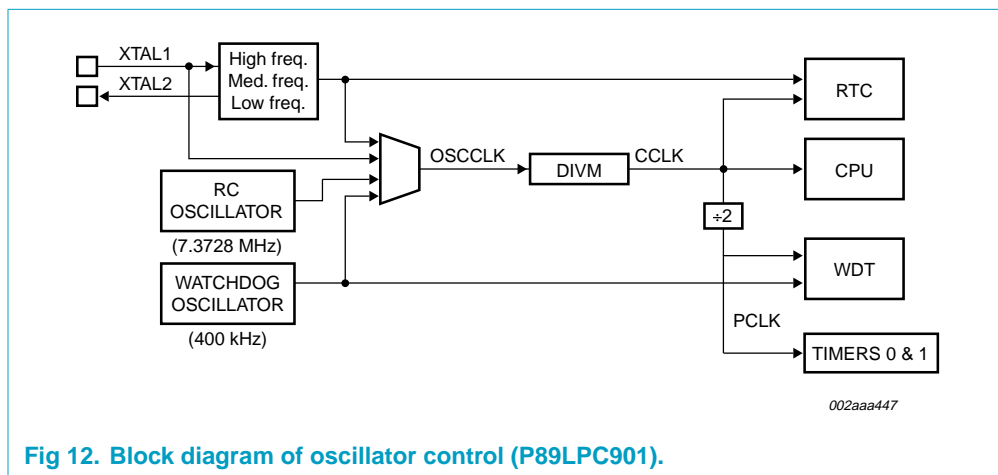

Fig 12. Block diagram of oscillator control (P89LPC901).
**OSCCLK** — Input to the DIVM clock divider. OSCCLK is selected from one of the clock sources (see Figure 12, 13, and 14) and can also be optionally divided to a slower frequency (see Section 8.7 “CPU CLOCK \(CCLK\) modification: DIVM register”).